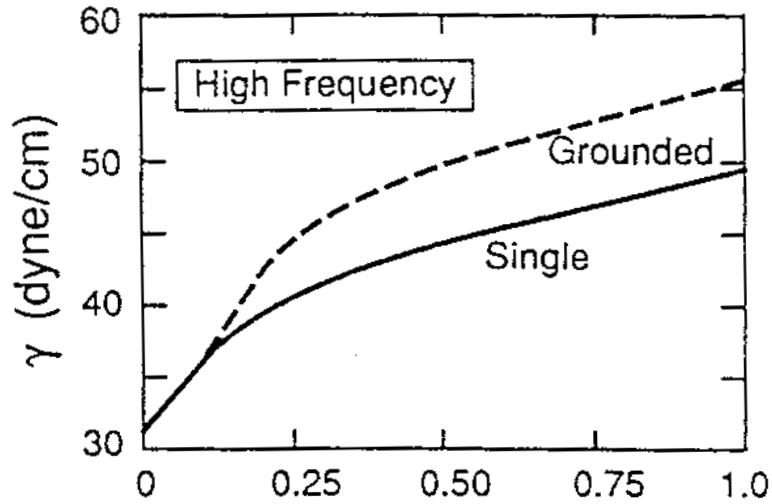

Figure 3.3 Surface Energy vs. Treatment Time
3.1.10 **Use of Ground Plane.** See Figure 3.3. It shows the surface energy vs. time in seconds with a single electrode (no ground plane), and with a metal plate underneath the surface to be treated. The ground plane helps to direct more of the corona to the surface, but does cause a slight reduction in the treated area.